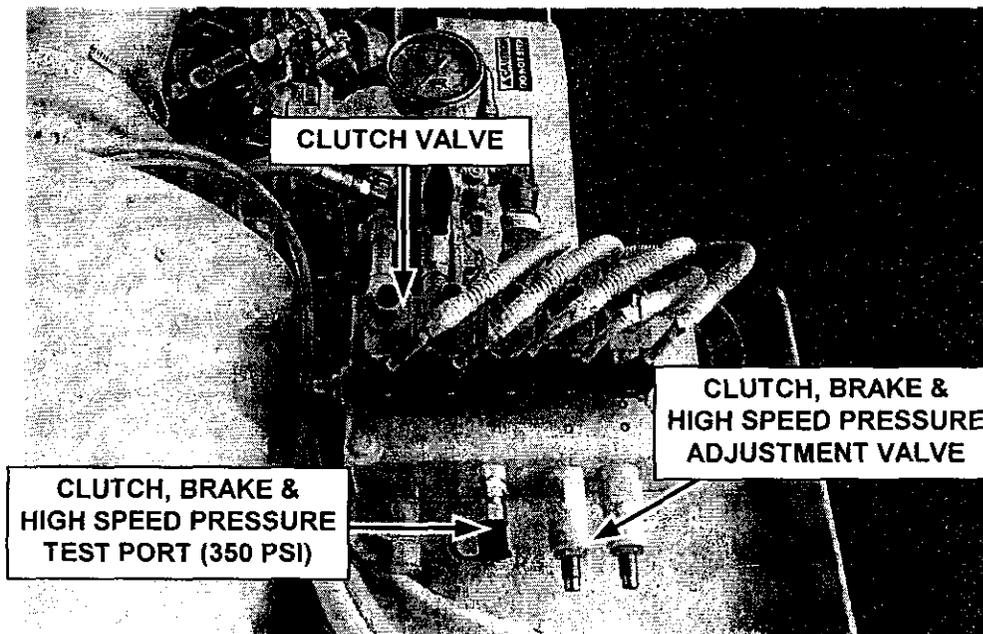

FIGURE 30
J. With the engine at low idle, engage the clutch by pressing the clutch control switch found on the operators console (figure 29). Clutch pressure is set at 350 psi. Clutch pressure can be modified by adjusting the clutch pressure reducing valve (figure 30) located underneath the right hand engine compartment hood.